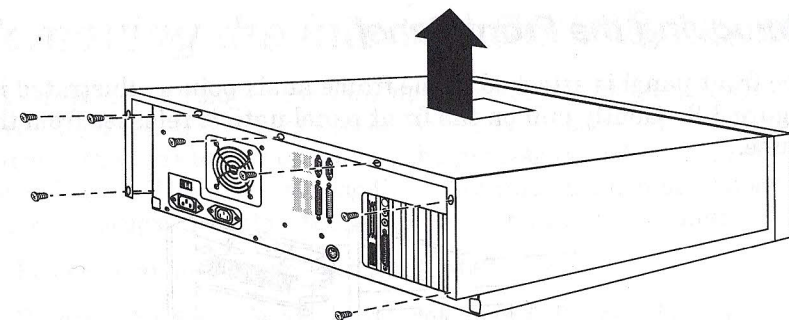

Figure 3-1. Removing the A4000T Main Unit Cover
4. Grasp the cover on both sides as illustrated in Figure 3-1, and slide it toward you and up.